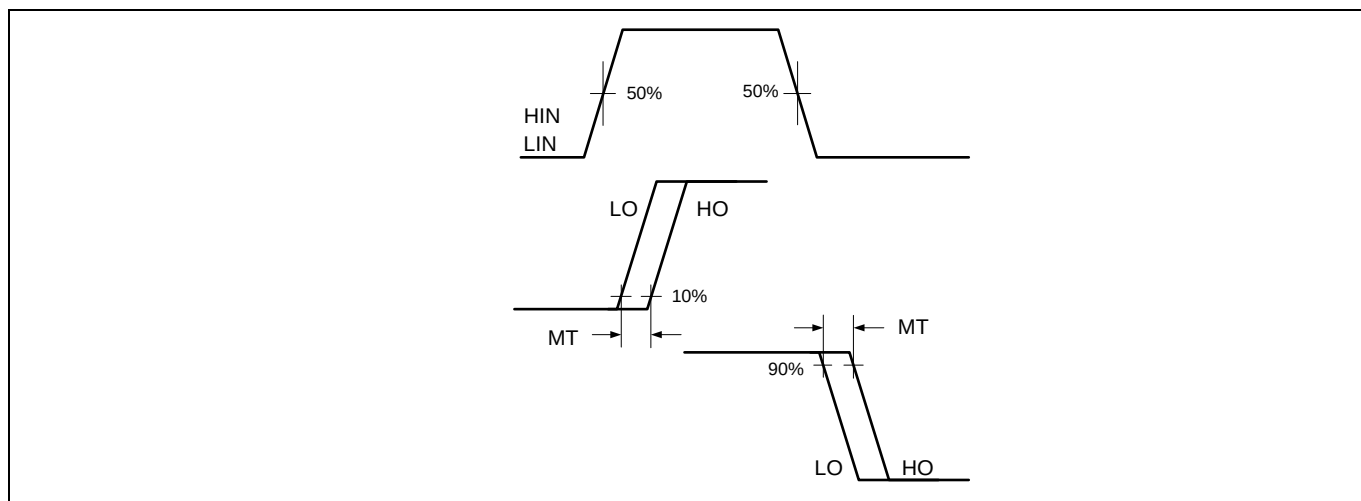

Figure 5 Delay matching waveform definition
IGI60L5050A1M is designed with propagation delay matching circuitry. With this feature, the integrated gate driver IC's response at the output to a signal at the input requires approximately the same time duration (i.e., t_{ON} , t_{OFF}) for both the low-side channels and the high-side channels as shown in Figure 5. The maximum difference is specified by the delay matching parameter (MT). The propagation turn-on delay (t_{ON}) of the integrated gate driver is matched to the propagation turn-off delay (t_{OFF}).